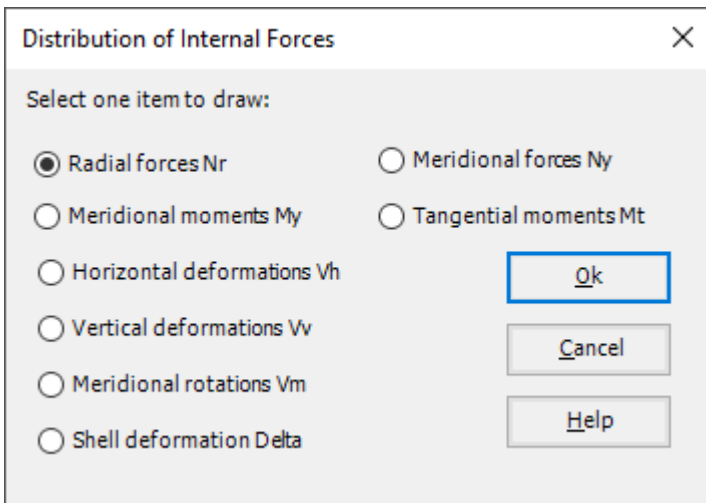

Figure 10.26 "Distribution of Internal Forces" option box
- From "Rotational shell results" command in the "Results" menu, choose "In Plan" command, the following option box in Figure 10.26 appears